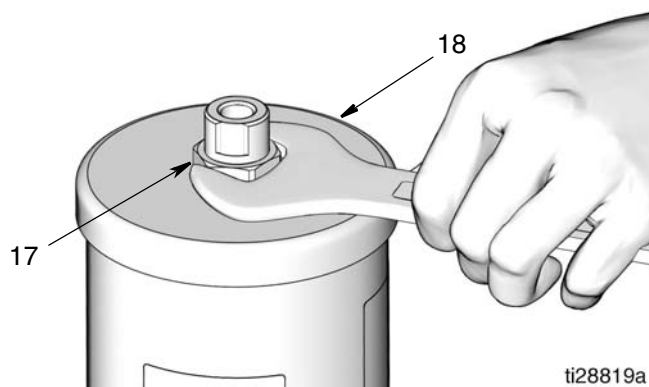

FIG. 13
9. Reservoir Gaskets (10)
Cover (18) is spring loaded. Use your hand to apply pressure on the cover. At the same time, use a wrench to loosen and remove nut (17) from reservoir cover (18) (FIG. 13).